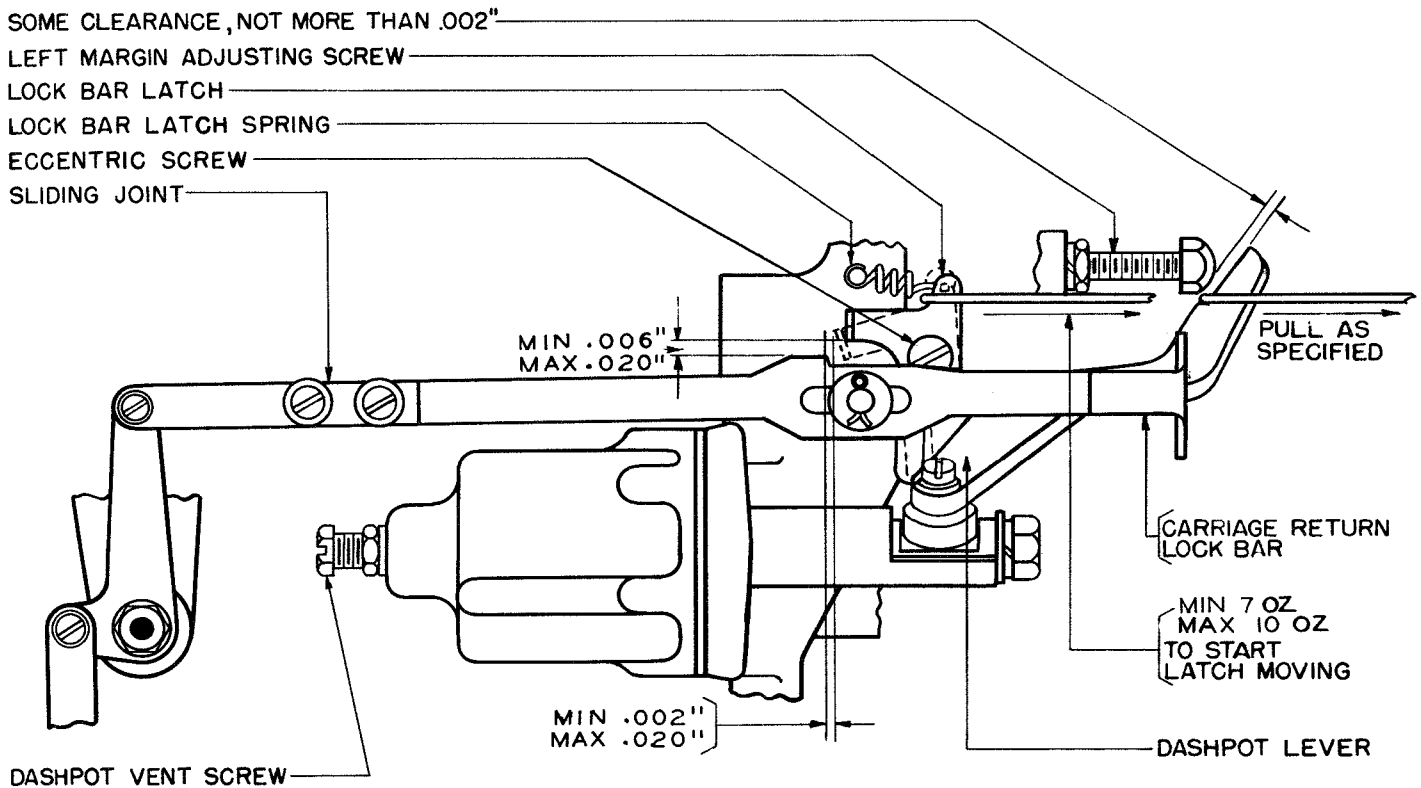

Figure 46
2.101 Lock-bar Latch should clear the lockbar by minimum 0.006 inch, maximum 0.020 inch when the front end of the dashpot lever is held to its extreme left and play between the lockbar and the shoulder stud is taken up in a direction to make the clearance a minimum. See Figure 46.
2.102 Lock-bar-latch Spring (new-style light spring) should have a tension of minimum 7 ounces, maximum 10 ounces when the carriage-return lock-bar latch is unlatched (resting on upper part of lockbar). (See Note, 2.101.) See Figure 46.
To Adjust: Loosen the lock-bar sliding-joint clamping screws and change the length of the lockbar. See Figure 46.
To Adjust: Set the height of the carriage-return operating-lever stop-screw. See Figures 46 and 47.